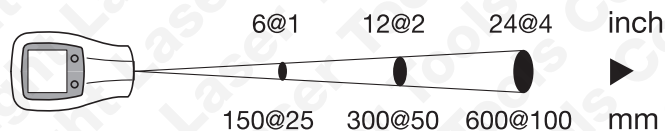
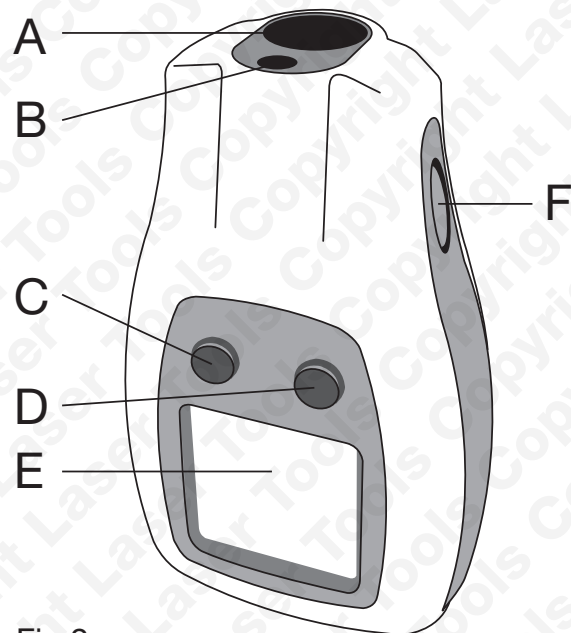

Fig 1: Distance (D) to Spot Size (S)
Fig 2:
Point the device towards the object being measured then press and hold the Measure Button (F). The laser pointer will aid positioning of the measured area (this laser pointer can be switched on or off — refer to Fig 2). The LCD and backlight will turn ON and show the temperature being recorded (SCAN displayed on LCD). When the Measure Button is released the measured temperature figure will display for approximately 7-8 seconds until the device automatically switched off (HOLD displayed on LCD). The object being measured should be larger than the spot size (refer to Fig 1).